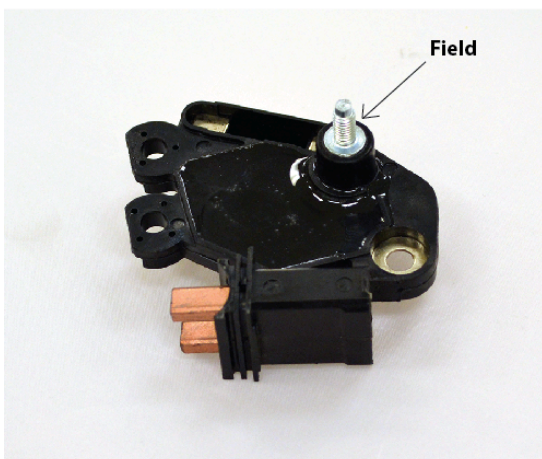

Figure 1
- 2) Connect the blue "field wire" to the field terminal on the Internal Regulator (see Figure 1).